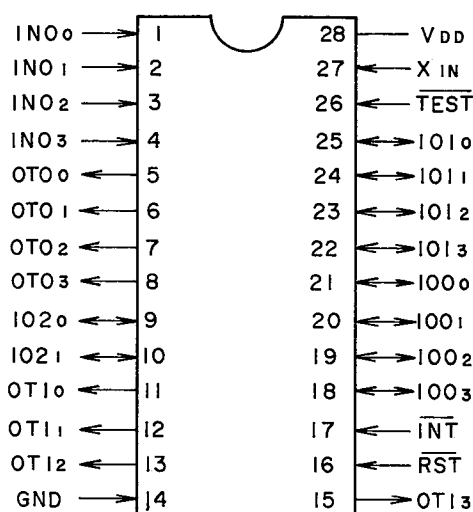

Fig. 5 Pin Configuration
Fig. 5 is the block diagram of AP-500-A, which has ① input terminal, ② output ports, and ③ input/output ports. AP-500-A receives and processes data coming